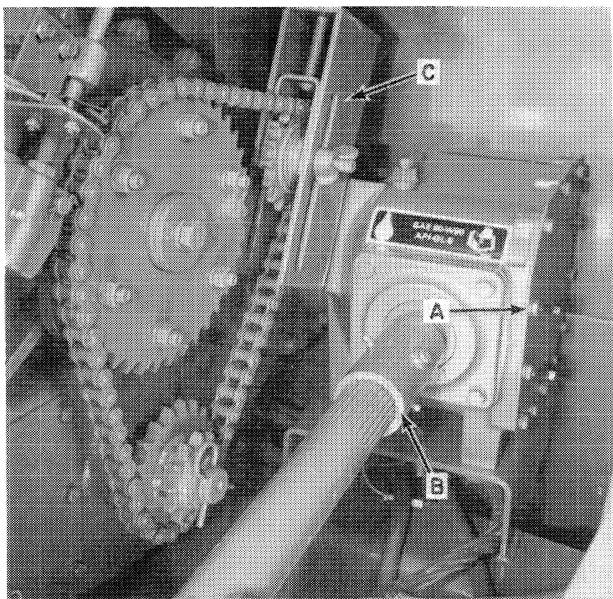
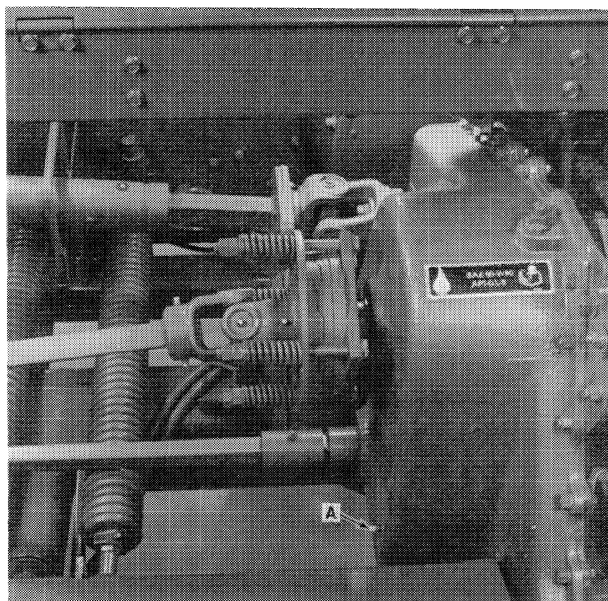

FIGURE 1-15
FIGURE 1-16
4. Install the input shaft coupler, B, Figure 1-15. Do not overtighten the retaining bolt.
5. Install the length-of-cut chain idler bracket, C, Figure 1-15, and align the sprockets.
The level plug for the bevel gearbox is at A, Figure 1-15. The reversing gearbox level plug is at A, Figure 1-16.